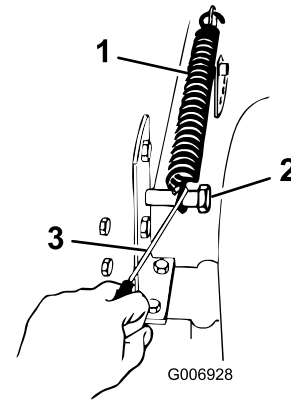

Figure 49
- Remove the height-of-cut lift assist spring from the retaining bolt (Figure 49). The spring is between the frame and the right rear wheel.
13. Move the height-of-cut lever into the "D" notch. Hook the lift assist spring onto the retaining bolt for storage (Figure 49).